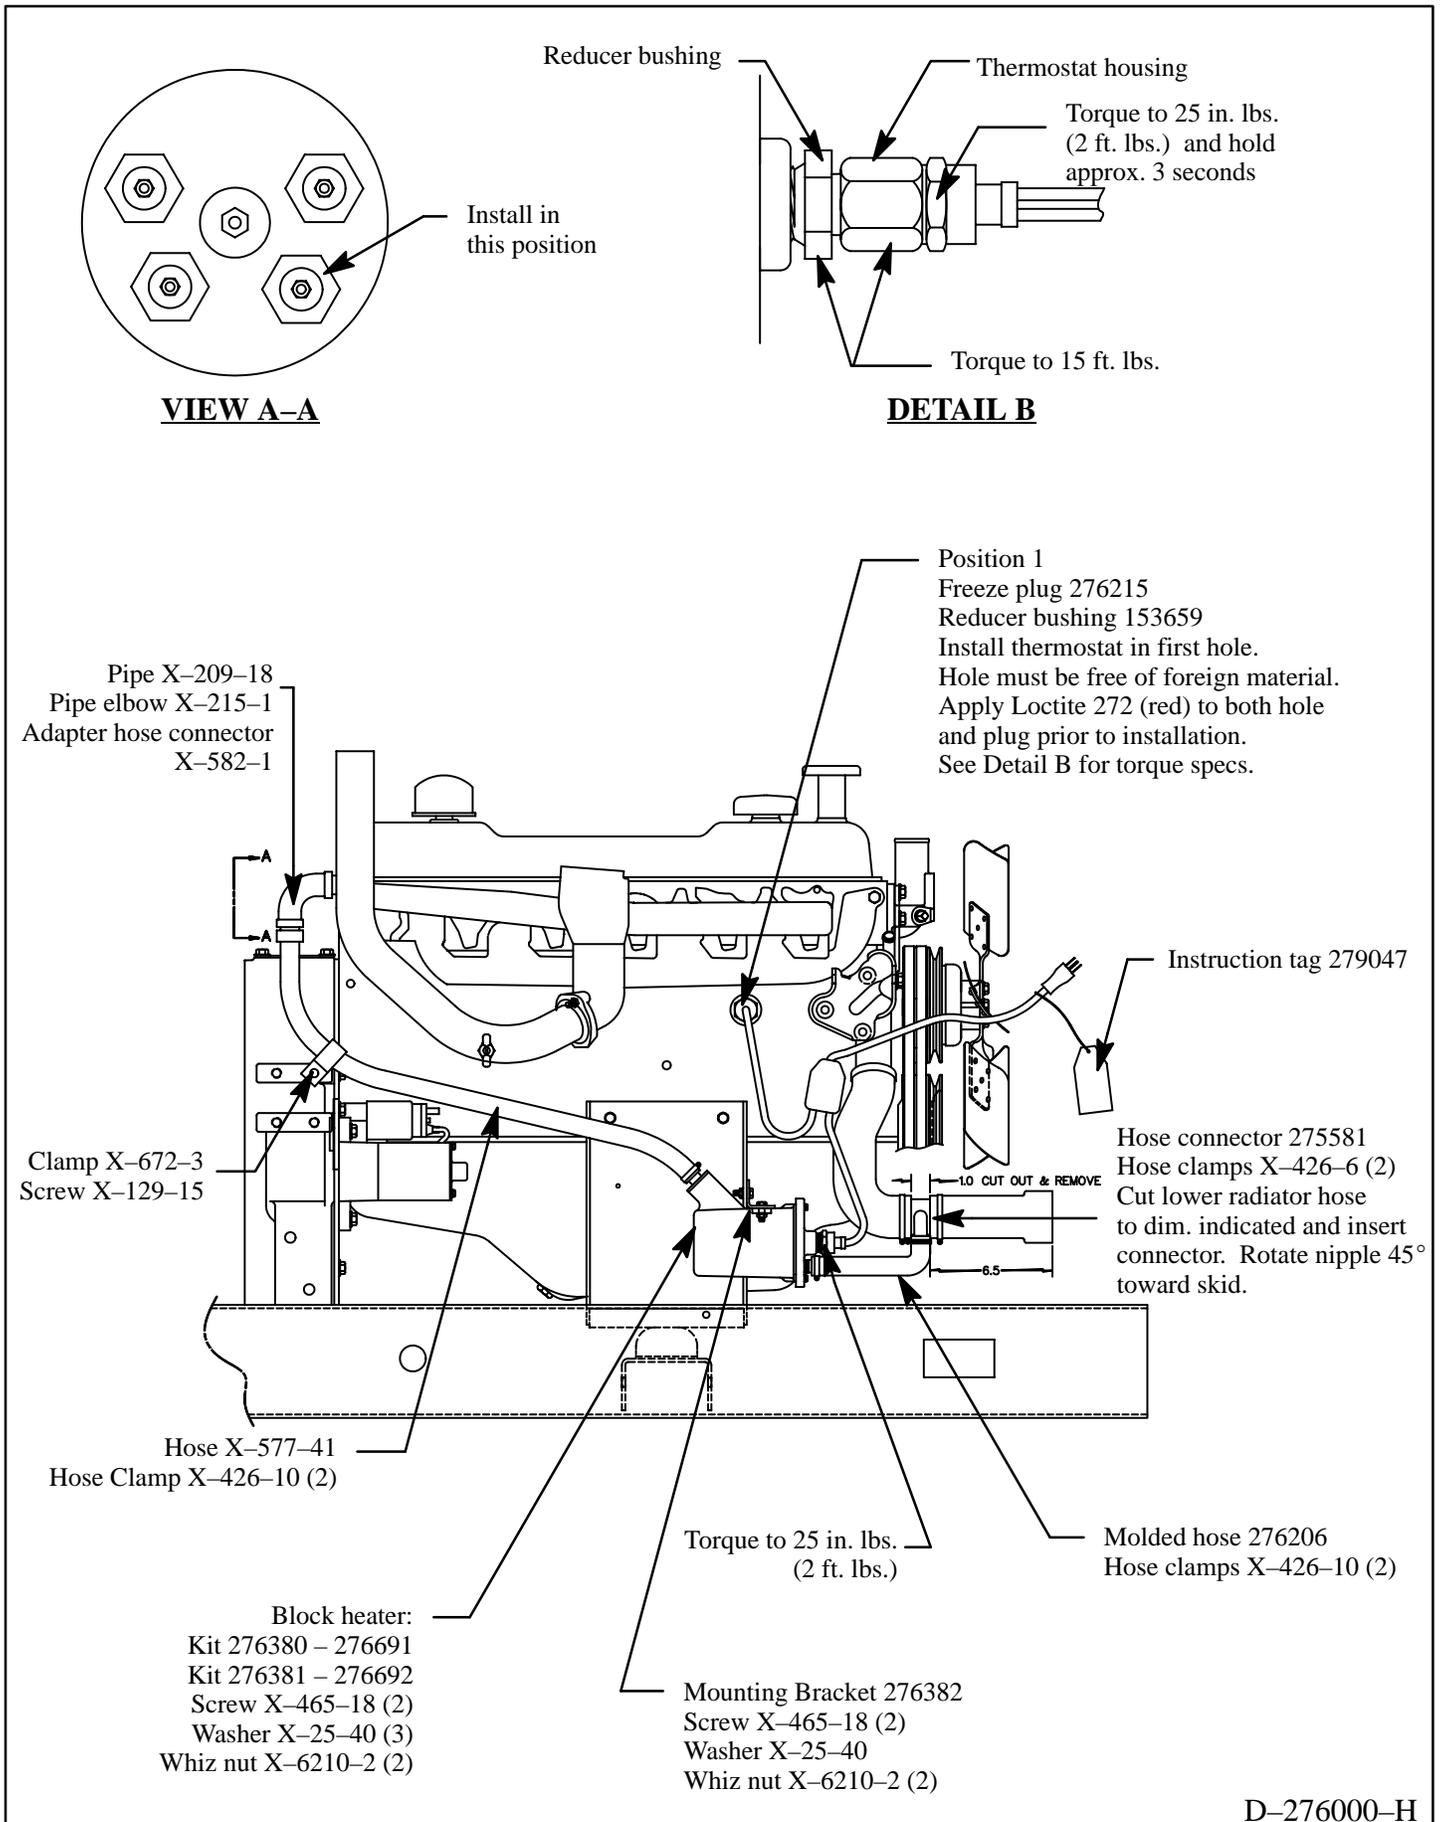

Figure 3. Block Heater Installation
5. *(This step may not be necessary if a freeze plug adapter is already located at this position).* With components clean and dry, apply Loctite® threadlocker 272 (red) or equivalent to freeze plug adapter 276215 and hole at position 1 (see Figure 3.) Install freeze plug adapter using hardwood dowel and hammer. Drive freeze plug adapter into engine block so that it is flush with the outside surface of the block. Do NOT drive freeze plug adapter beyond that point or it may be forced into the water jacket.
Apply pipe sealant to reducer bushing 153659 and install into freeze plug adapter. Install thermostat to reducer bushing. Note torque specification in Figure 3, Detail B.
6. Locate sensor block at rear of engine (as viewed from generator end). Remove pipe plug (if not already done), see Figure 3 for location.
12. Install block heater 276691/276692 to bracket using two screws X-465-18, plain washers X-25-40, and whiz nuts X-6210-2. Note torque specification in Figure 3.